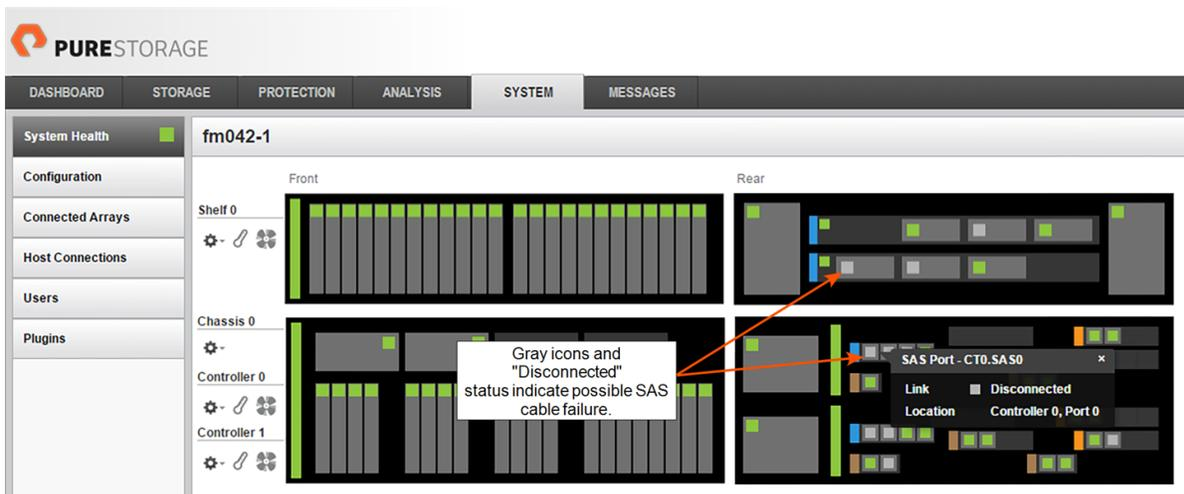

Figure 5-2. GUI Indication of Possible SAS Cable Failure
- SAS port with a status of **disconnected** (see Figure 5-2).
1. View the Purity GUI or CLI to identify the ports connected by the faulty cable (see Figure 5-2 and Figure 5-3).